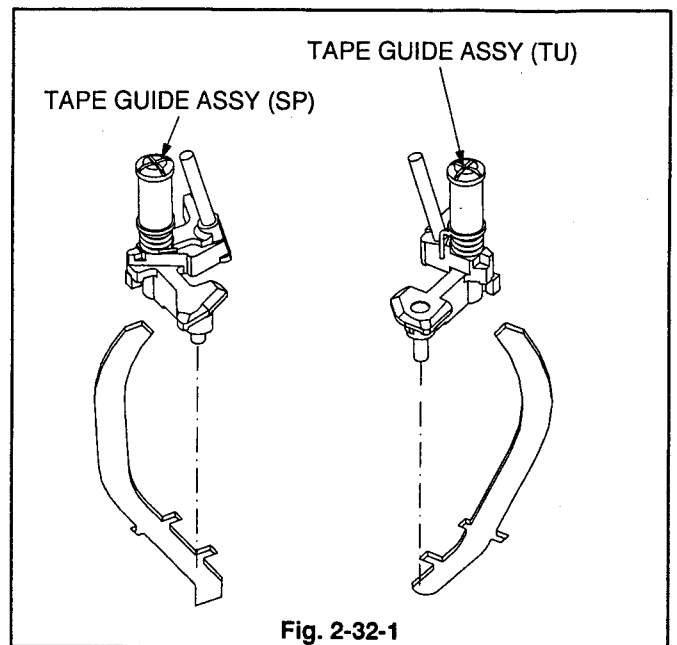

Fig. 2-32-1
1. Loosen the TAPE GUIDE ASSY (SP) shown in the Fig. 2-32-1 (turn it fully in the Unloading direction) to remove it.
2. Loosen the TAPE GUIDE ASSY (TU) shown in the Fig. 2-32-1 (turn it fully in the Unloading direction) to remove it.
2. Install the TAPE GUIDE ASSY (SP) shown in the Fig. 2-32-1.
3. Install the TAPE GUIDE ASSY (TU) shown in the Fig. 2-32-1.